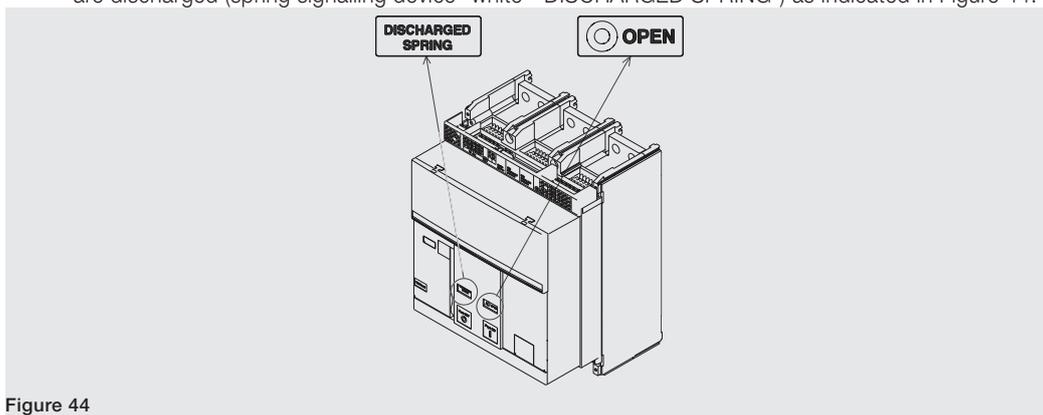

Figure 44
7. Check that the circuit-breaker is open (open / closed indicator "O - OPEN"), and check that the springs are discharged (spring signalling device "white - DISCHARGED SPRING") as indicated in Figure 44.